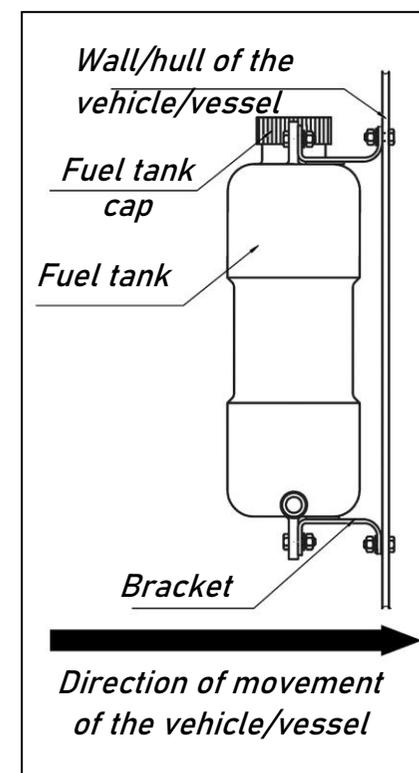

Figure 3 – Installation of the fuel tank
Consider convenience of fuelling, when installing the fuel tank (Fig.3). Install the fuel tank in such a way that the amount of fuel and its potential leaks from the inlet, fuel suction nozzle or connections can be visually controlled.
**Fuel tank must be installed with its wide side perpendicular to the direction of the movement of the vessel (see Fig. 3).**
1. Assemble the shut off valve (5) and both fittings (7) together. Put copper O-rings (6) at the fitting thread side
2. Put rubber sleeves (8) with clamps (4) to the both fittings.
4. Mount fuel tank or fuel pick up tube (included in the heater installation kit) according Fig.2 or Fig.3
5. Fasten the fuel pump (3) to the surface with a clamp. Don't overtake 1m maximum distance from the fuel tank (1).
6. Connect fuel pick up tube/fuel tank to the shut-off valve (5) using 1m copper pipe (9) piece and sleeves (8). Push copper pipe (9) into the sleeve (8) as deep as possible to avoid air bubbles occurrence during operation. Do not cut the pipe. Fasten copper fuel pipe (9) to surface with P-type clamps every 50-80 centimetres.
7. Connect 4m copper pipe piece (9) to the fuel pump outgoing side sleeve (8).
9. Connect fuel pump wiring harness to the fuel pump socket. Check if the shut off valve (5) is open. Start the heater several times until the fuel removes air from the fuel pipe.
10. Put rubber sleeve (8) with clamps (4) to the heater (2) fuel intake pipe and connect the end of 4m copper pipe (9) to the heater (2). Push copper pipe into the sleeve (8) as deep as possible to avoid air bubbles occurrence during operation
11. Retighten all clamps (4). Start the heater (2) and check fuel lines for leakage during operation.